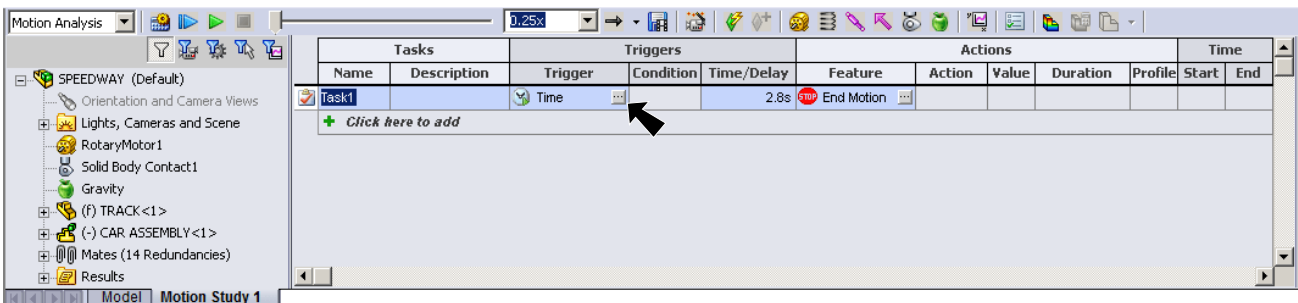

Fig. 19
Step 3. Under Trigger, click the **Select a trigger button** , **Fig. 19.**